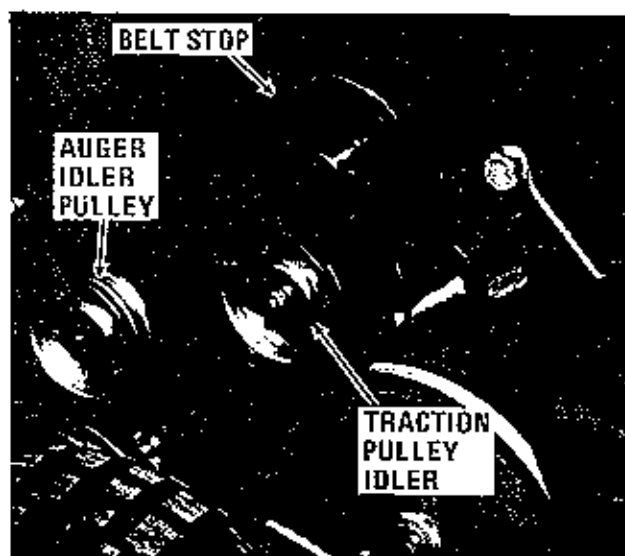

Figure 10
1. Remove the belt shields on the left side of the unit. Engage both the auger and transmission drive belts. Loosen hardware and adjust the large one-piece belt stop on the engine to gain approximately 1/8" clearance between the belts and the belt stop with belt engaged. Secure the belt stop hardware. See Figure 10.